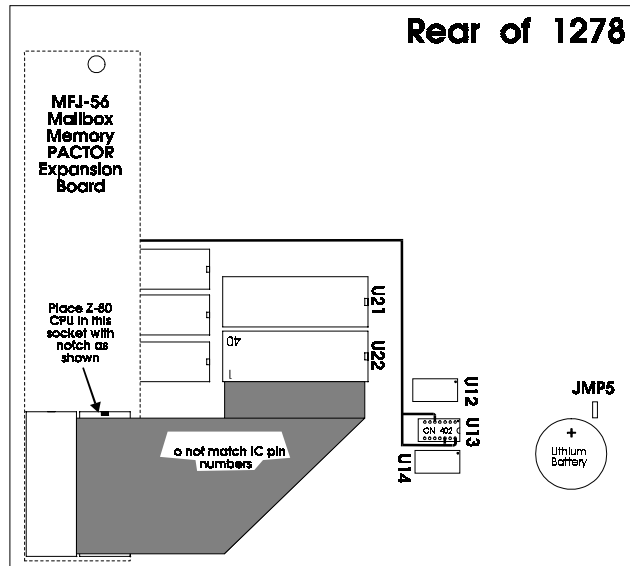

Figure 1
8. Please refer to Figure 1 when performing this step. Using a small phillips screwdriver remove the PC hold-down screw in the left rear corner of the TNC mother board, this is refered to as HOLE "A". Do not let this screw out of your sight, you'll be using it here shortly.
9. Take the 1/2" hex spacer supplied and install it in HOLE A, as noted in Figure 1 in this instruction. This is the same place where you removed the screw in Step #8. This is an aluminum spacer DO NOT OVER TIGHTEN it, you will STRIP the THREADS.
10. Now with the memory board in one hand, plug the free end of the 40-pin ribbon cable into the IC socket labeled U22 (please refer to Figure 1; this is the same one which you removed the Z80 CPU from earlier in this procedure) on the mother board. Be sure to orient the blue connector so that pin 40 and 1 on the blue connector are oriented to the right side of the IC socket, (with the front panel of the TNC facing toward you). You will need to twist the cable slightly. Ensure that you leave the CN402 pigtail free and clear, do not let it become pinched or caught up underneath anything.
14. Take note of the location of the NOTCH on CN402. Now plug CN402 into the IC socket labeled U13 (socket which the 74HC4066 was removed earlier) on the TNC mother board. Please refer to either Figure 1. Plug it in so the NOTCH is pointing toward the lithium battery. Make sure it is firmly in place!